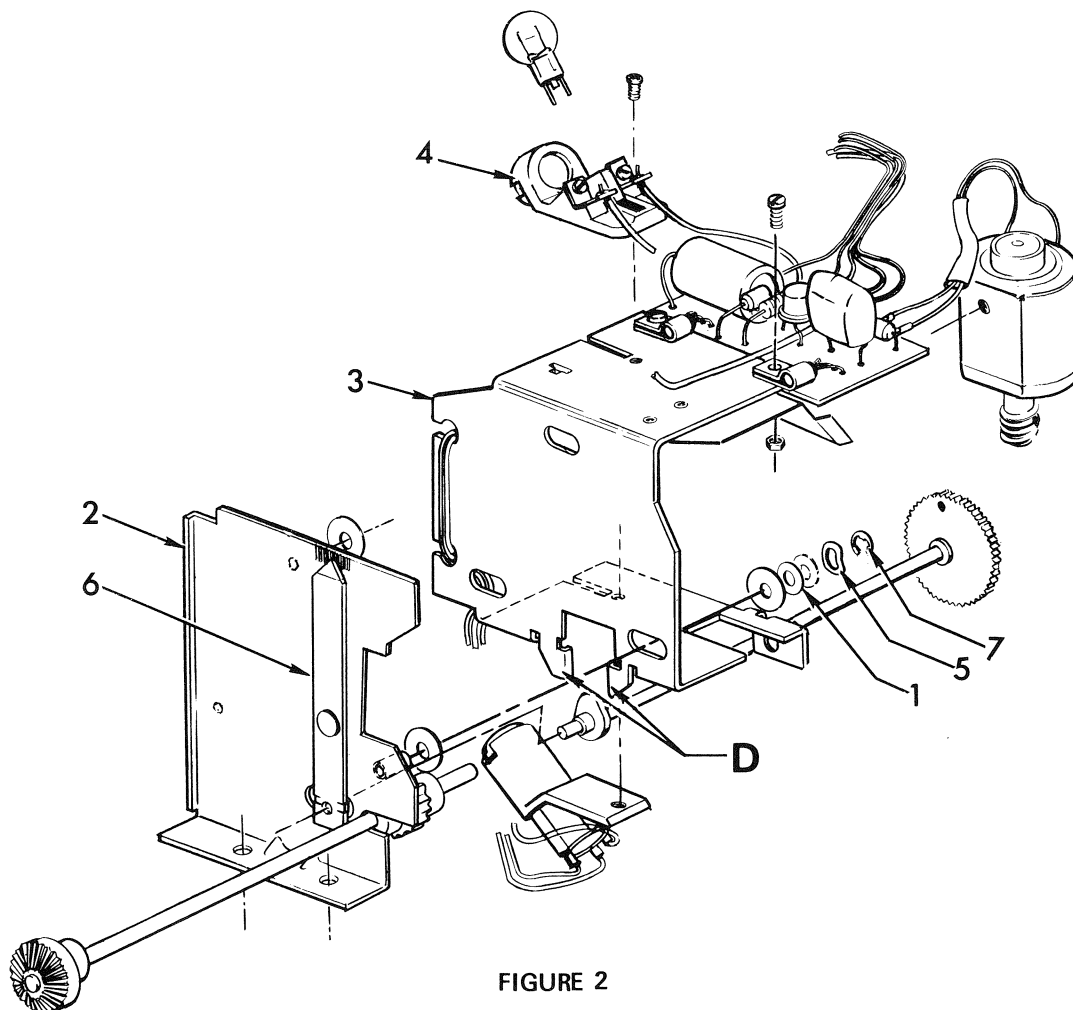
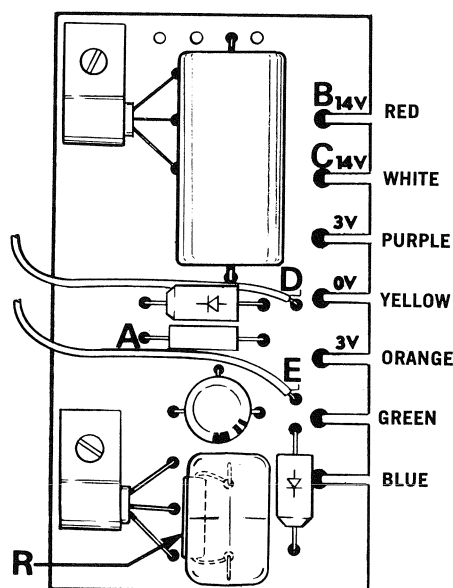
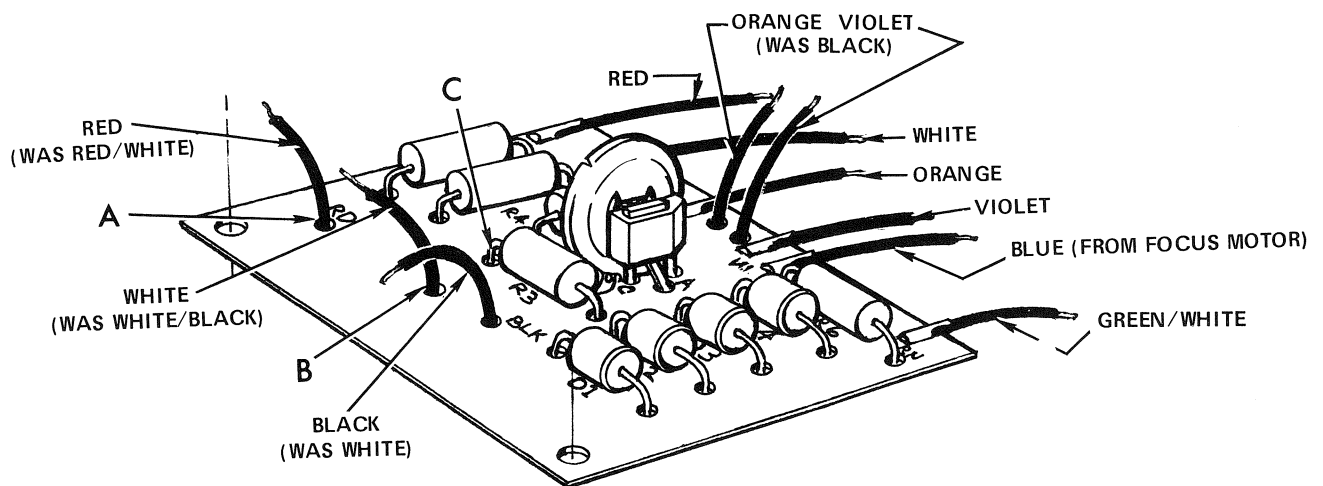

FIGURE 2
FIGURE 3
FIGURE 5
The sensor unit at the bottom of the lens bracket is a double unit with upper and lower cells. When the point of light reflected off the slide surface is in the center of the cell, both sides of the cell produce equal current and the focus motor is not driven. See Figure 3. If the slide "pops" toward the sensor, the light point will be reflected upward into the upper section of the sensor unit. The sensor output will be unbalanced and drive the focus motor toward the balance point, which is the center of the sensor, or in this case, away from the slide until the light point again reaches the center of the sensor. If the sensor loses the beam entirely, as could happen if the unit were improperly calibrated or if a slide were so warped as to throw the point of light off at a great angle, the unit would probably react to the remaining light coming from the slide, and seeing an equal amount of light with each part of the "eye" would react as though focused, that is, remain stable even though not focused. This and other conditions are covered in the Trouble Shooting section.
(See Figure 2) The following is a factory adjustment procedure completed on each automatic focusing system before assembly to the support bracket (5). A complete automatic focusing assembly as received from the factory will already be adjusted, but on some occasions in service work it will be necessary to repeat this procedure.
NOTE: A few early projectors have slight differences in automatic focus systems parts which will affect the alignment and repair procedures as noted. These projectors will not have resistor R, Figure 3, on the printed circuit board, and the washer, (1), will be of a larger size. When replacing circuit boards use the later board and washer and adjust bracket pull to 70 to 120 grams, as explained below.
2. Before being placed in the projector, the lamp, bracket, and sensor assembly, not assembled to support bracket (2), are aligned in SAWYER'S test jig 371-503 as follows (see Figure 2): Place the lens bracket assembly, (3), in the fixture with the light bulb and socket, (4), center the spot of light in the dull finish target area in the fixture, which is substituting for a slide. Tighten 2 light clamp screws. Now change the target area to the polished area and adjust the sensor unit by loosening the sensor hold-down screw and sliding it back and forth till the spot of light is centered on the sensor lens. Now hook up a test focus motor to the amplifying unit (blue and green terminals of circuit board, Figure 3) and hook up input power to the unit. (Use a spare motor assembly as input power and hook up leads to all terminals on the circuit board.) With fine movements, slide the sensor unit back and forth to find the null, that is, until the focus motor does not move, or is so close to the null point that a slight up or down motion with the fingers on the sensor will change the direction of the focus motor. (Although the focus motor may not actually find a null point in this test, when the unit is in place in the projector the lens bracket friction is sufficient to dampen the movement. See Step 3.)
3. Now assemble the lens bracket (3), to the support bracket (2). After assembly the friction is measured for full forward and backward motion with a draw scale attached to the cam bearing surface on the bracket, point "D" in Figure 2. Friction should measure 70 to 120 grams (40 to 60 grams for early models) smoothly in each direction. This friction, determined by the spring washers (5), is an important dampening source for the servo loop.
4. Black wires which were on the source lamp are now replaced with violet and orange wires and are soldered at positions shown in circuit board diagram. Figure 5.
5. Tape end of yellow wire which is no longer used and connect wire connectors on circuit board as shown in circuit board diagram. Figure 5.
<p>Transformer (motor) bad.</p> <p>Sensor cell bad.</p>	<p>TRANSISTOR CIRCUIT            GENERAL ELECTRONICS TEST.            Place 1.5 K ohm resistor from end of resistor, point A in Figure 3, across to red terminal B, and then across from point A to white terminal C. This is a general systems test, except for the sensor cell (which the resistor substitutes for). If the motor operates in both tests sensor cell is probably bad, see test below. If motor does not run, test transformer, see test below. If cell and transformer are OK, check printed circuit board by substituting another board.</p> <p>SCR CIRCUIT            GENERAL ELECTRONICS TEST (See Fig. 5)            Place a 2.2 K ohm (1/2 W resistor) from either the red "A" or the white "B" input terminals to "C" on R3, the focus motor should now run continuously. The direction should reverse when the 2.2 K ohm resistor is alternated between the red "A" and the white "B" terminals. This is a quick test for the circuit board, focus motor and wiring.</p> <p>NOTE: Send defective printed circuit boards back to the Portland factory for rebuilding.</p> <p>Check for AC voltages at terminals as shown in Figure 3. Be sure line voltage to motor is OK. Check fuses.</p> <p>TRANSISTOR CIRCUIT            If the above tests fail to reveal any malfunctions the sensor cell may be tested with an ohm meter WITH POWER TO PROJECTOR OFF, and light bulb removed. For early projectors (see note section B) slip wires off red and white terminals B and C, measure from point A to B and from A to C, then repeat with a bright light (flashlight) shining into cell lens. Dark measure should be approximately 15 K, depending on intensity of light. Both sides should be close to equal; unbalance will cause system malfunction. If there is still doubt, the bracket must be re-</p>